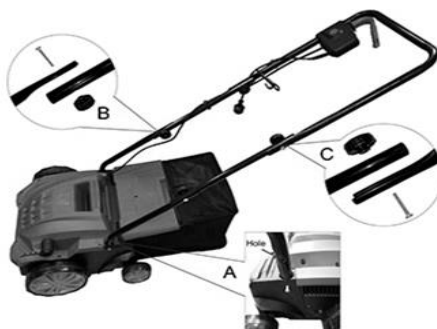

Fig.2
Insert the handle support 1 (7) into the slots on the machine body and attach it with the screws provided. Secure the hole of the tube outwards and align it with the screw (Fig. 2.A).
Attach handle support 2 (11) to handle support 1 (7) using the quick-release fasteners (4) and screws. (Fig. 2.B)
Position and attach the handle (12) to handle support 2 (11) (Fig. 2.C). Attach the cable using the supplied fasteners (6).